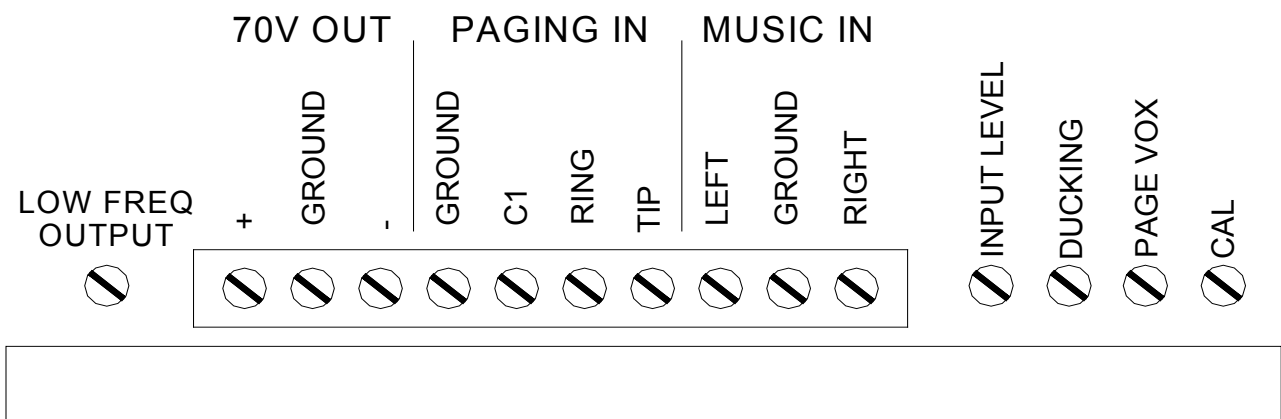

Figure 9. Sound Level Adjustments on AmpliCenter
- A. Adjust the Low Frequency Cut Off control to center position. This control cuts out the low frequency bass so that horns and small speakers are not over-driven and distorted by excessive bass energy. Cut-off frequency is continuously adjustable from 50Hz (full CCW rotation) to 400 Hz (full CW rotation). See Figure 9.